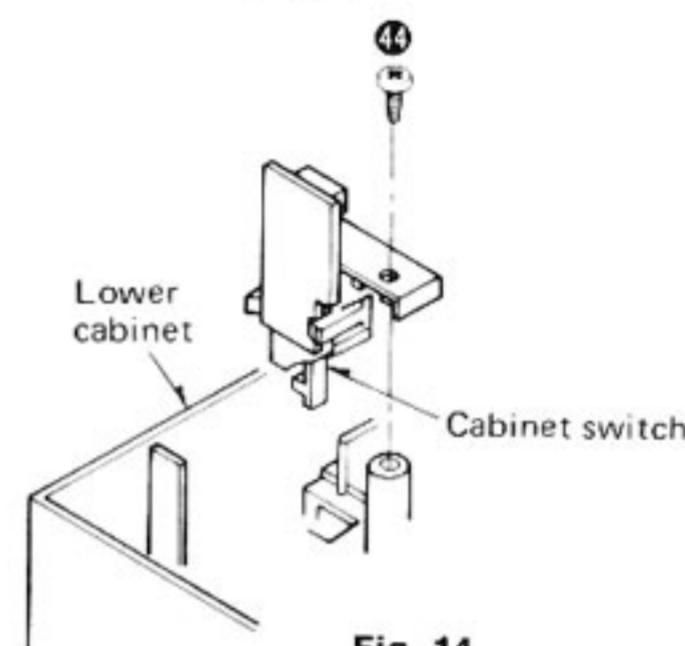

Fig. 14
3. Remove the cabinet switch setscrew (Fig. 14: ④).